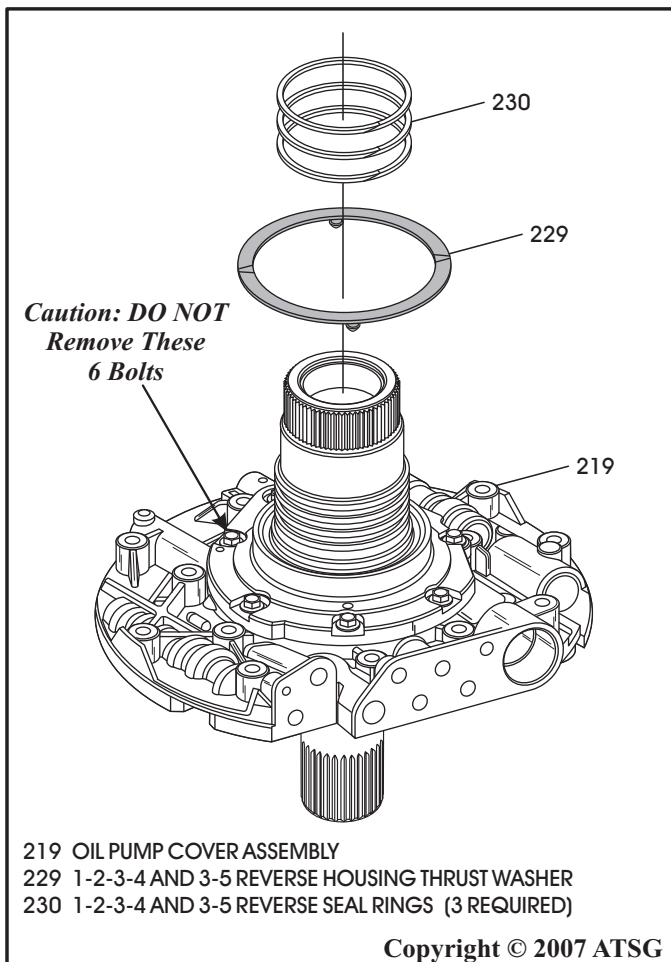

Figure 63
15. Install the oil pump cover thrust washer, as shown in Figure 63, and ensure it is fully seated in the thrust washer tab bores.
16. Install three new "lap joint" sealing rings, as shown in Figure 63.